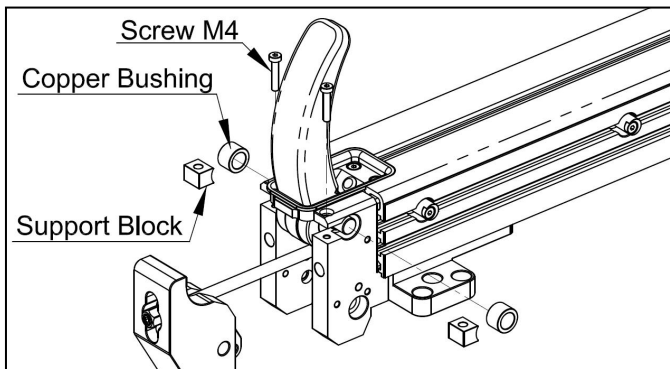

Fig. 9-6
- (6) Remove two M4 screws, two support blocks, and two copper bushings, as shown in **Fig. 9-6**.